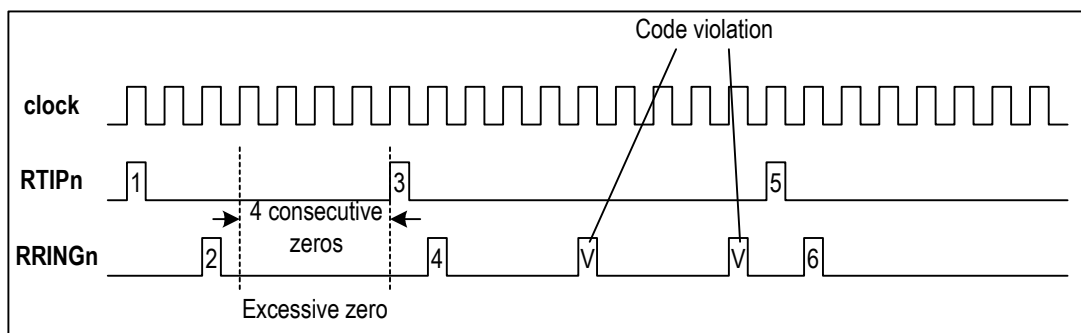

Figure 8. HDB3 Code Violation & Excessive Zero Error
2. HDB3 Code Violation (CV) Error: When HDB3 line code rule is used, a CV error is detected if two consecutive BPV errors are detected, and the pulses that have the same polarity as the previous pulse are not the HDB3 zero substitution pulsed (refer to Figure 8).
| HDB3 | More than 3 consecutive 0s are detected (refer to Figure 8). | More than 3 consecutive 0s are detected (refer to Figure 8). |